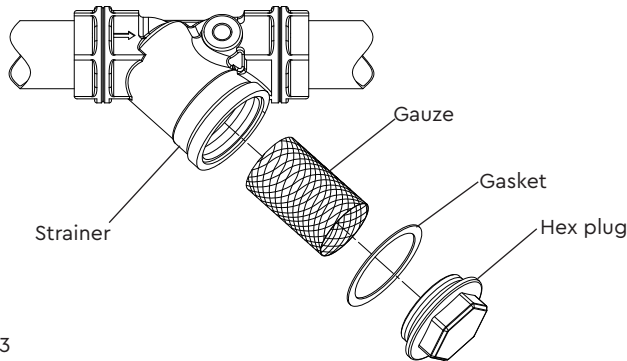

Fig. 13
The strainer is located in the inlet pipework to the pump (Fig. 13). The gauze filter is removed as follows:-
- d) Remove screwed hexagonal plug from strainer body taking care to collect or absorb any residual water (Fig. 13).